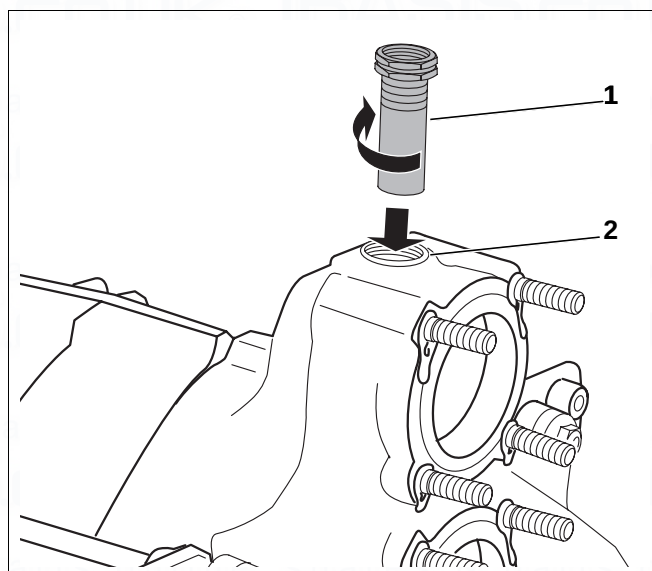

Fig. 20 Installation – sensor well
- Seal sensor well 3/4" (length: 110 mm) (Fig. 20, [1]) from the top into the 3/4" tapped hole in the flow connection (Fig. 20, [2]).